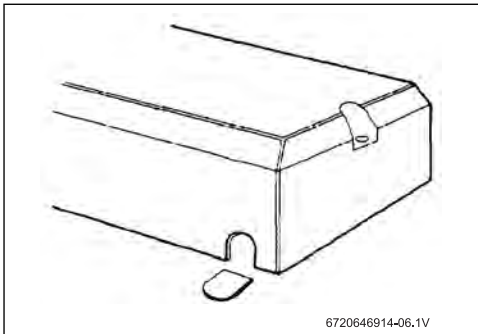

Fig. 9 Cover lug cut out
- ▶ If it is going to be through the cover bottom, cut out the plastic lug to expose the rubber sleeve (Fig. 9 ):